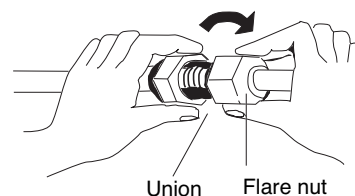

Fig. 13
- For proper connection, align the union tube and flare tube straight with each other, then screw in the flare nut lightly at first to obtain a smooth match. (Fig. 13)